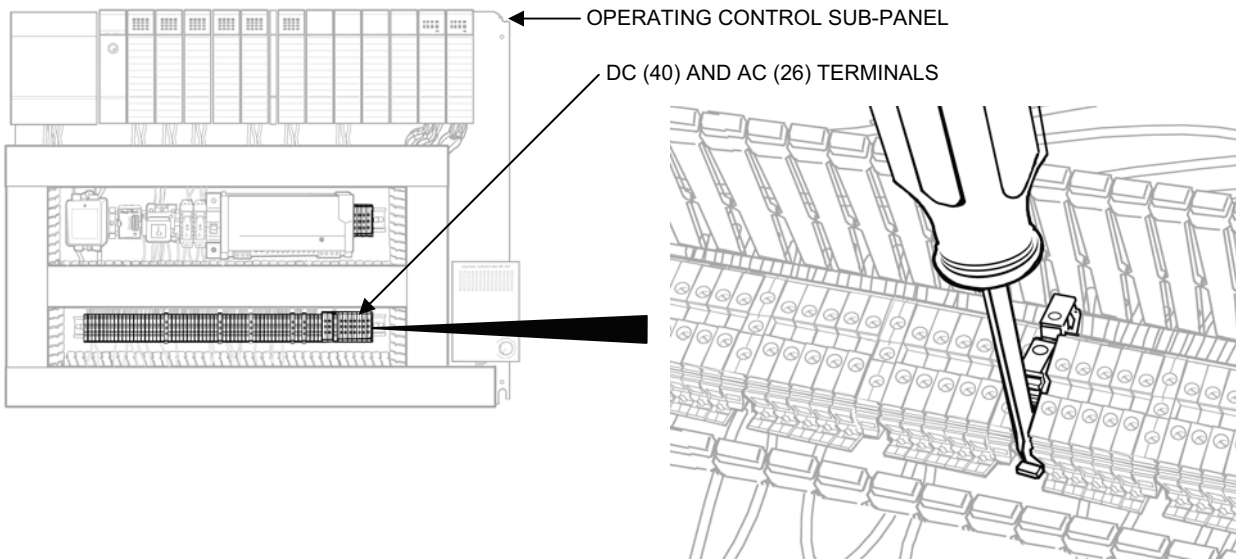

Figure 17. AC or DC Terminal Removal.
3. Remove AC terminals (blue) or DC terminals (gray) as follows (see Figure 17):